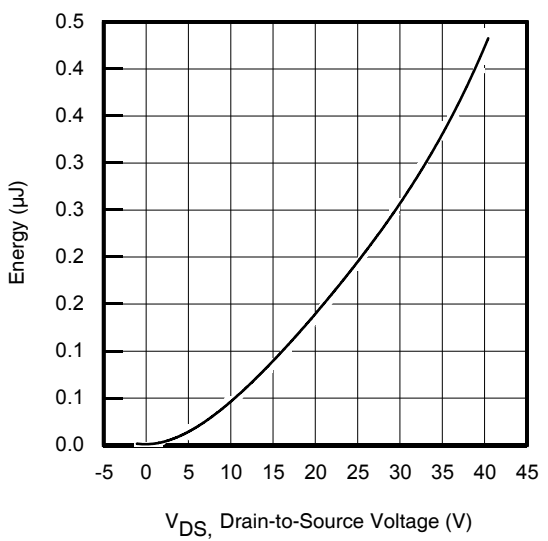

Fig. 11 Typical Coss Stored Energy
- ① Calculated continuous current based on maximum allowable junction temperature. Bond wire current limit is 100A by source bonding technology. Note that current limitations arising from heating of the device leads may occur with some lead mounting arrangements. (Refer to AN-1140)
- ② Repetitive rating; pulse width limited by max. junction temperature. (See fig. 11)
- ③ Limited by T_{Jmax}, starting T_J = 25°C, L = 0.039mH, R_G = 50Ω, I_{AS} = 76A, V_{GS} = 10V. Part not recommended for use above this value.
- ④ I_{SD} ≤ 76A, di/dt ≤ 1255A/μs, V_{DD} ≤ V_{(BR)DSS}, T_J ≤ 175°C.
- ⑤ Pulse width ≤ 400μs; duty cycle ≤ 2%.
- ⑥ C_{oss,eff. (TR)} is a fixed capacitance that gives the same charging time as C_{oss} while V_{DS} is rising from 0 to 80% V_{DSS}.
- ⑦ C_{oss,eff. (ER)} is a fixed capacitance that gives the same energy as C_{oss} while V_{DS} is rising from 0 to 80% V_{DSS}.
- ⑧ When mounted on 1" square PCB (FR-4 or G-10 Material). For recommended footprint and soldering techniques refer to application note #AN-994
- ⑨ R_θ is measured at T_J approximately 90°C.
- ⑩ Pulse drain current is limited by source bonding technology.